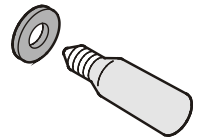

Figure 13
3. Remove the defective lamp. Make sure the seal (**Fig. 13**) is placed on the new lamp before installing it.